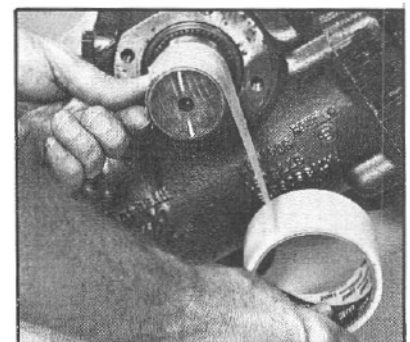

Figure 11
- 1.7 Cover the serrations of the sector shaft (50) with one layer of masking tape to avoid damaging the seals during trunnion cover installation (FIG. 11).